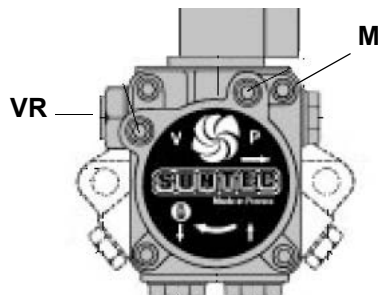

Fig. 25
- 2 bleed the air from the **M** pressure gauge port (Fig. 25) by loosening the cap without removing it, then release the contactor.
- 4 the nozzle supply pressure is already factory-set and must not be changed. Only if necessary, adjust the supply pressure as follows (see related paragraph); insert a pressure gauge into the port shown on Fig. 25 and act on the pump adjusting screw **VR** (see Fig. 25) as to get the nozzle pressure at 20bar (Monarch or Fluidics nozzles - see page 28).